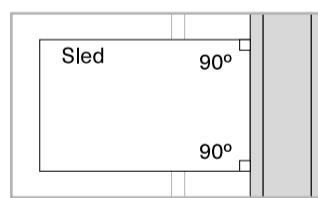

Fig 2b - Square sled 90° to rip fence
- 2.2 Set your sled base square (90°) to the rip fence [Fig 2b].